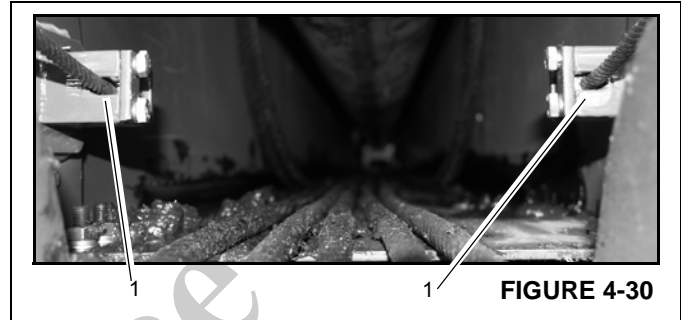

FIGURE 4-30
10. Lift up on the front of the fly assembly and remove the wear pads (4) from the pockets in the bottom of the outer mid.
12. Remove the retaining plate securing the two fly retract cables (Figure 4-30, 1) to the rear of the fly.